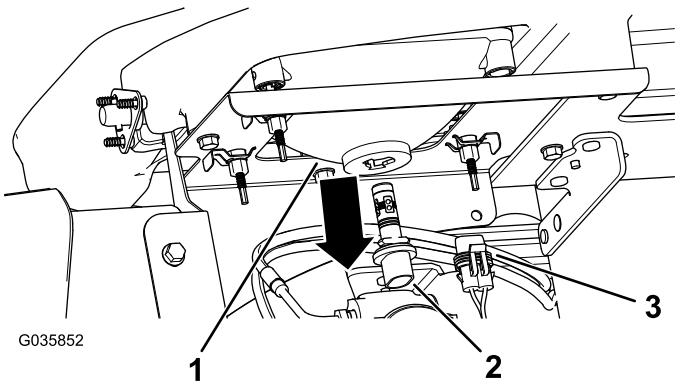

Figure 44
3. Disconnect the electrical connector for the harness from the connector of the lamp assembly at the back of the headlight housing (Figure 44).
4. Rotate the lamp assembly 1/4 turn counterclockwise and moving it rearward, out of the headlight housing (Figure 44).
with the slots in the headlight housing (Figure 44).
- Secure lamp assembly by turning it 1/4 turn clockwise (Figure 44).
- Connect the electrical connector for the harness to the connector of the new lamp assembly (Figure 44).